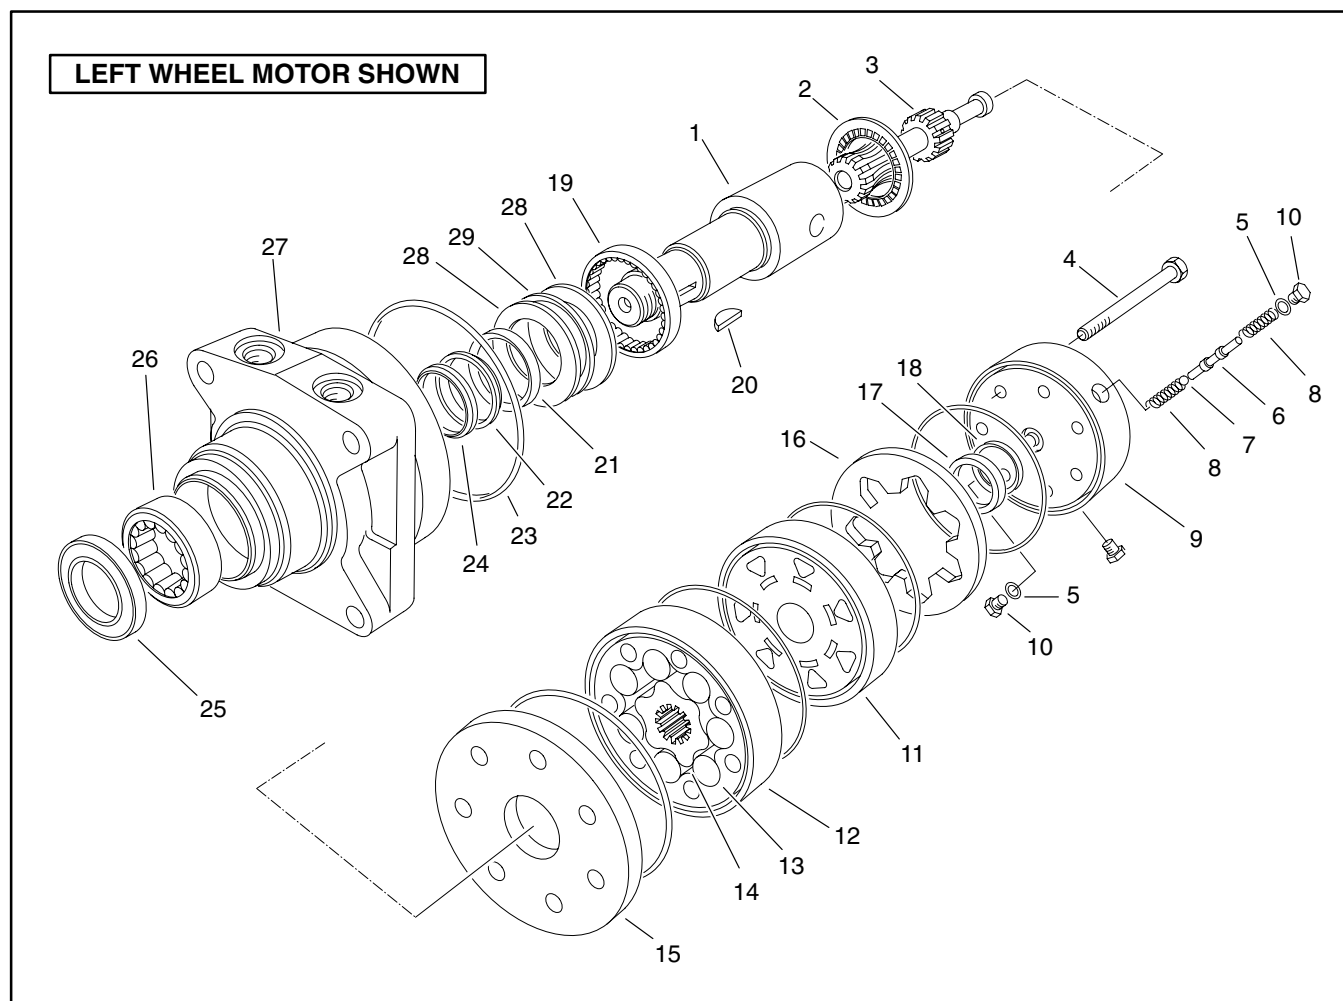

Figure 42
**NOTE:** The wheel motor shown in Figure 42 is the left motor. The two wheel motors are identical in construction except for end cover differences. The end cover of the right motor lacks the shuttle valve and plugs of the left motor shown. On machines equipped with the optional 3 Wheel Drive Kit, the wheel motor for the rear wheel is identical to the right motor.